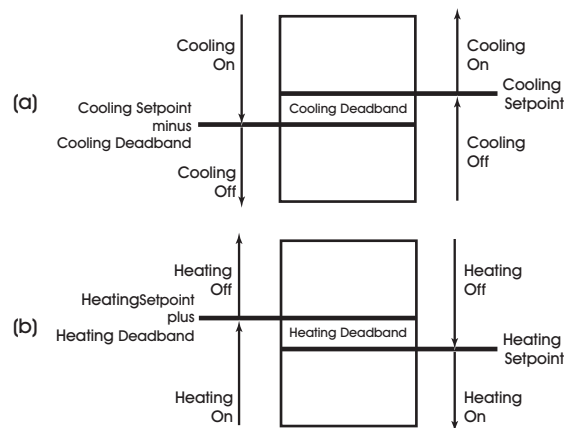

Figure 3-10: Deadband for a Normal Acting (a) and Reverse Acting (b) Thermostatic Control Loop
The **(DB) Desired Control DeadBand** property specifies a control deadband for the thermostatic control loop. For a normal action control, this specifies the amount by which the temperature must drop below the cooling setpoint before the output is de-energized (**SP-DB**). For a reverse action control, this specifies the amount by which the temperature must rise above the heating setpoint before the output is de-energized (**SP+DB**). This response is illustrated in Figure 3-10.